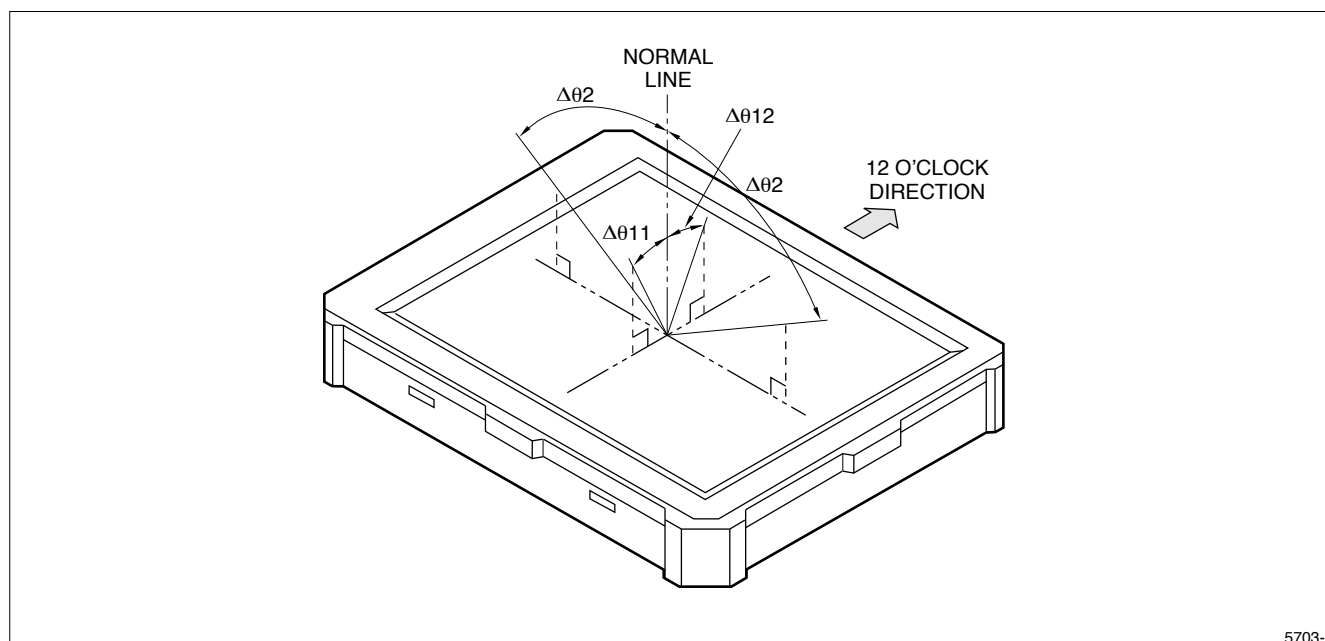

Figure 8. Definition of Viewing Angle Range
- Viewing angle range is defined in Figure 8.